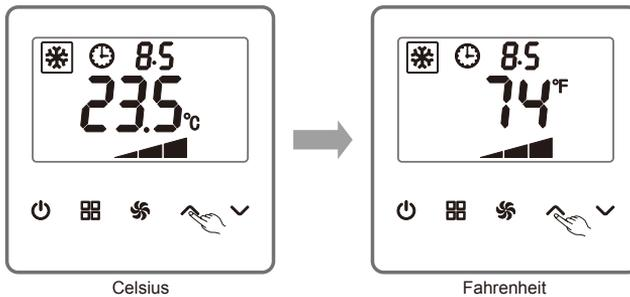

Figure 3
- (1) During the operation of the unit, press \wedge (UP) or \vee (DOWN) to raise or lower the temperatures.
- (2) When the temperature unit is Celsius, one press of the UP key or the DOWN key causes a 0.5°C increase or decrease within 16°C~30°C.
- (3) When the temperature unit is Fahrenheit, one press of the UP key or the DOWN key causes a 1°F increase or decrease within 61°F~86°F.
- (4) When keeping pressing the UP key or the DOWN key, the temperature varies every 0.5 second.
- (5) As shown in Figure 3, the indoor ambient temperature display, if activated, will appear by default after the unit is started. A desired temperature being set appears temporarily. Later, the default temperature will reappear without any operation in 5 seconds.